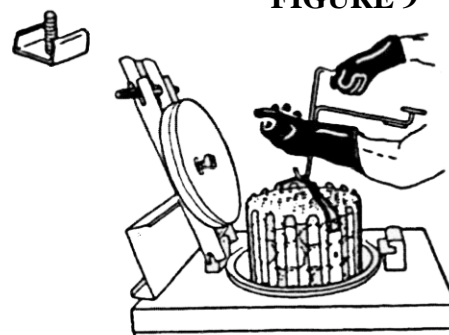

FIGURE 10
6. **DANGER:** When DROP signal comes on, use safety gloves and basket drain hook to lower basket slowly into hot cooking oil (FIG. 10).